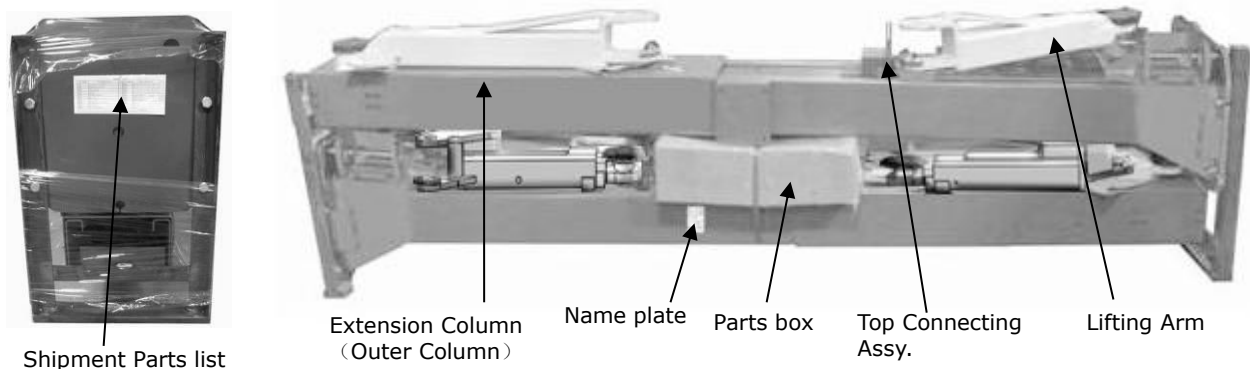

Fig.10
2. Move aside the lift with fork lift or hoist, and open the extension packing carefully, take off the lifting arms and parts box from upper and inside the column, then move them to location nearby installation site, check the parts according to the shipment parts list (**See Fig.10**).